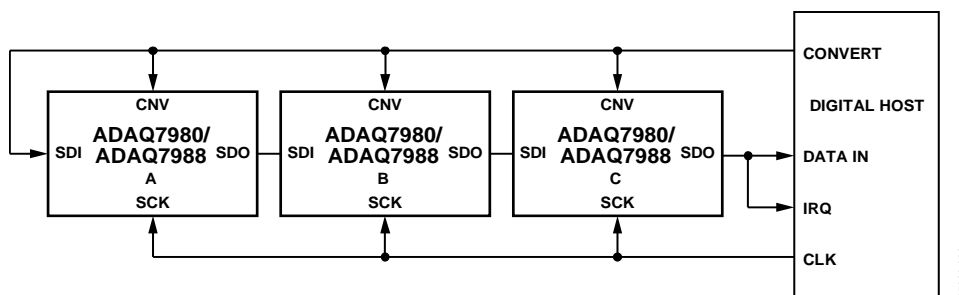
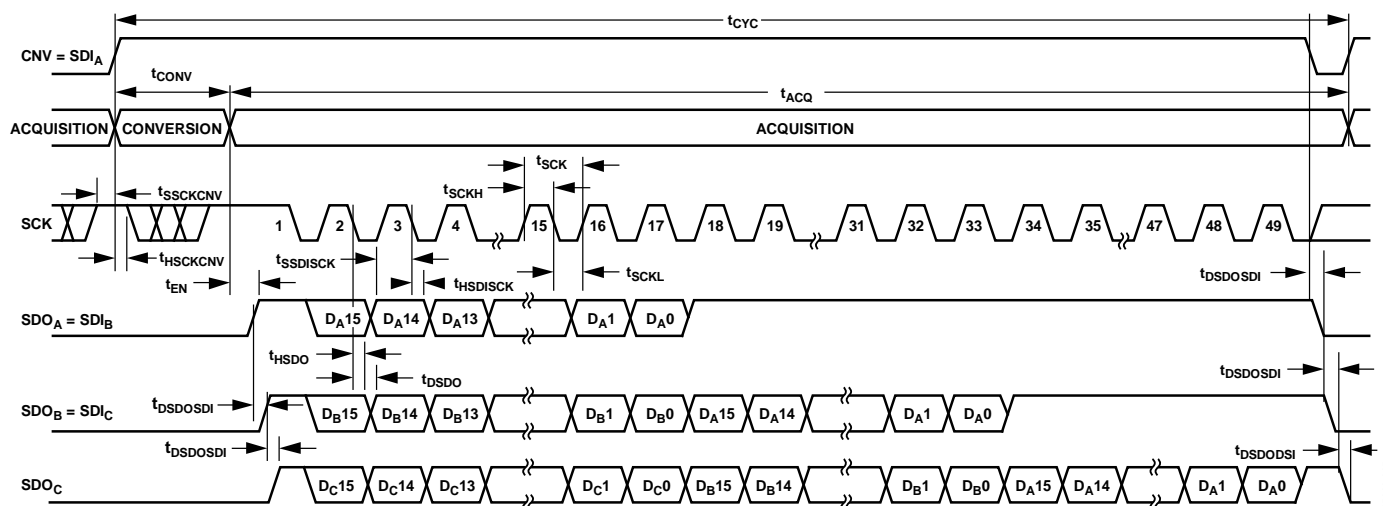

Figure 81. Chain Mode with the Busy Indicator Connection Diagram
Figure 82. Chain Mode with Busy Indicator Serial Interface Timing
- In chain mode if SCK is high during the CNV rising edge (see Figure 82).
Figure 81 shows a connection diagram example using three ADAQ7980/ADAQ7988 devices, and Figure 82 shows the corresponding timing.
In this mode, hold CNV high during the conversion phase and the subsequent data readback. When all ADCs in the chain complete their conversions, drive the SDO pin of the ADC closest to the digital host (see the ADAQ7980/ADAQ7988 ADC labeled C in Figure 81) high. Use this transition on SDO as a busy indicator to trigger the data readback controlled by the digital host. The ADAQ7980/ ADAQ7988 then enter the acquisition phase and power down. The data bits stored in the internal shift register clock out, MSB first, by subsequent SCK falling edges. For each ADC, SDI feeds the input of the internal shift register and clocks out by the SCK falling edge. Each ADC in the chain outputs its data MSB first, and  $16 \times N + 1$  clocks are required to read back the N ADCs. Although the rising edge can capture the data, a digital host using the SCK falling edge allows a faster reading rate and, consequently, more ADAQ7980/ADAQ7988 devices in the chain, if the digital host has an acceptable hold time.